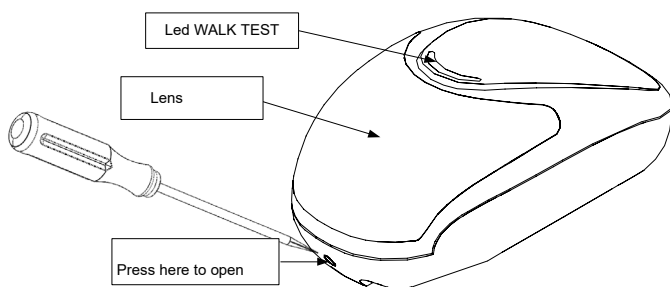

Figure 1
- By using a thin screwdriver, push the round tooth on the bottom and open the housing (see figure 1)